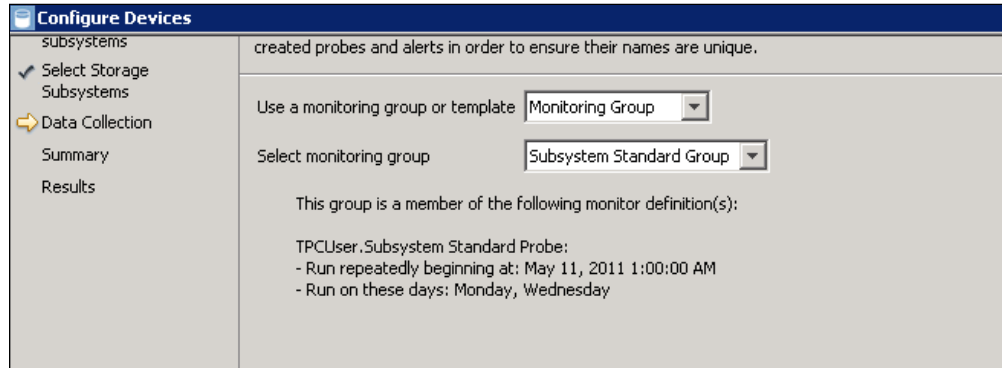

Figure 12-16 Data Collection, Select Monitoring Group: Subsystem Standard Group
10. In the Data Collection window (Figure 12-16 on page 297), indicate how you want Tivoli Storage Productivity Center to collect data from the DS8000 server: